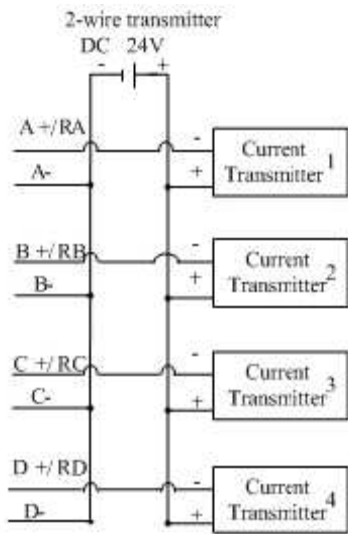
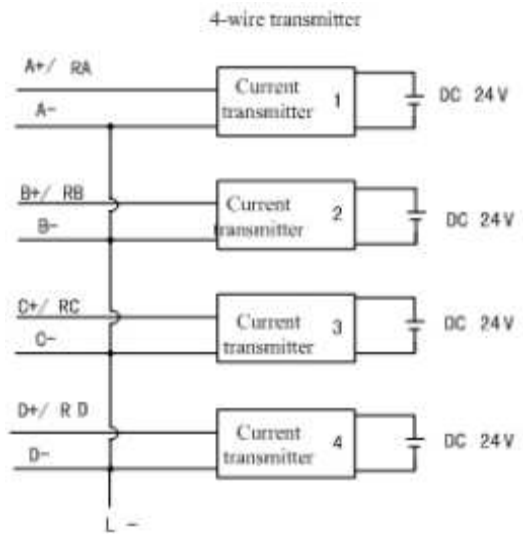

Figure3-2-2 2-Wire Current Transmitter Wiring
Figure3-2-3 4-Wire Current Transmitter Wiring
- Figure3-2-2 and Figure 3-2-3 are LM3310 wiring with 2-wire and 4-wire current transmitter. 2-wire current transmitter adopts external power supply, user can choose to use 24VDC output power of CPU module according to power capacity demand, or connect other external power.